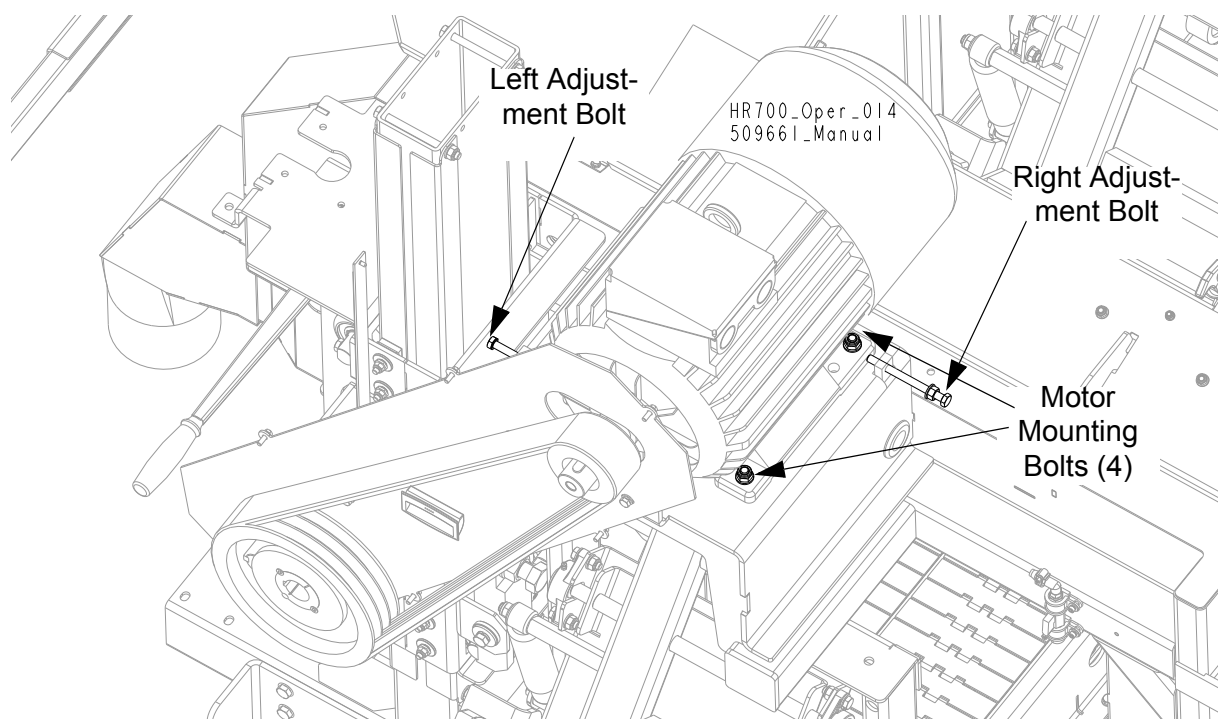

FIG. 4-2
2. Loosen the four motor mounting bolts (see Figure 4-2).
3. Loosen one of the adjustment bolts, shown in Figure 4-2, and turn the other until the belt has proper deflection. (To increase the belt tension, you must loosen the right bolt and appropriately turn the left one.) **NOTE:** Be sure to adjust the bolts evenly so the motor remains in alignment.